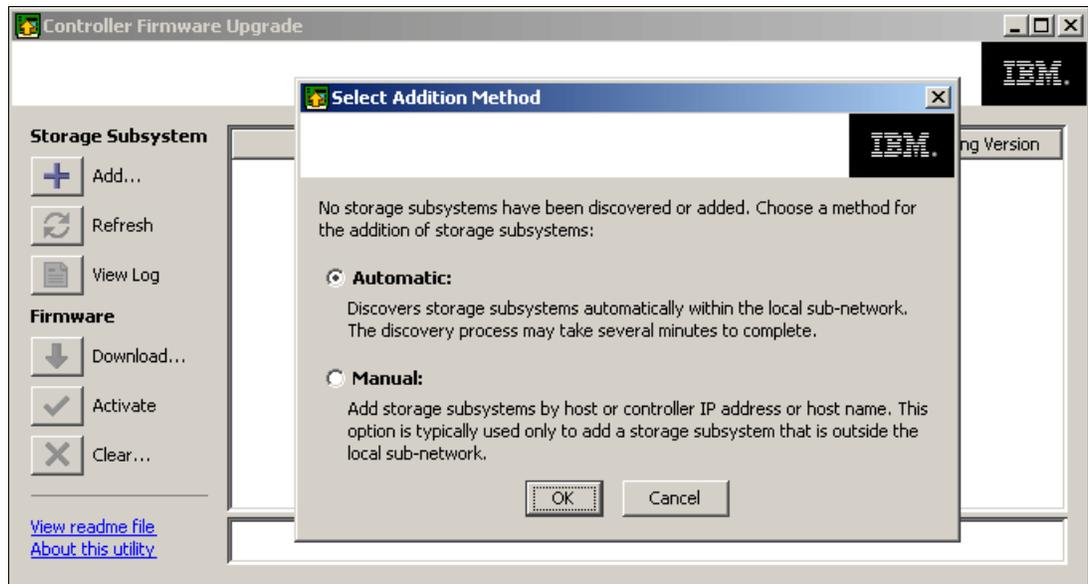

Figure 12-6 Adding a DS4000 to the upgrade utility
2. Click **Add** to initiate either an automatic discovery or a manual addition of the DS4000 to upgrade. To add a subsystem manually, enter the DS4000 controller IP address or the IP of the host used for in-band management of the DS4000. See Figure 12-6.